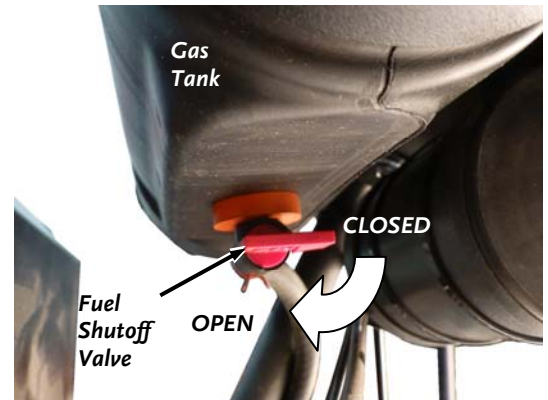

Figure 14
3. Ensure that the Fuel Shut-Off Valve located under the Fuel Tank is open (**Figure 14**).